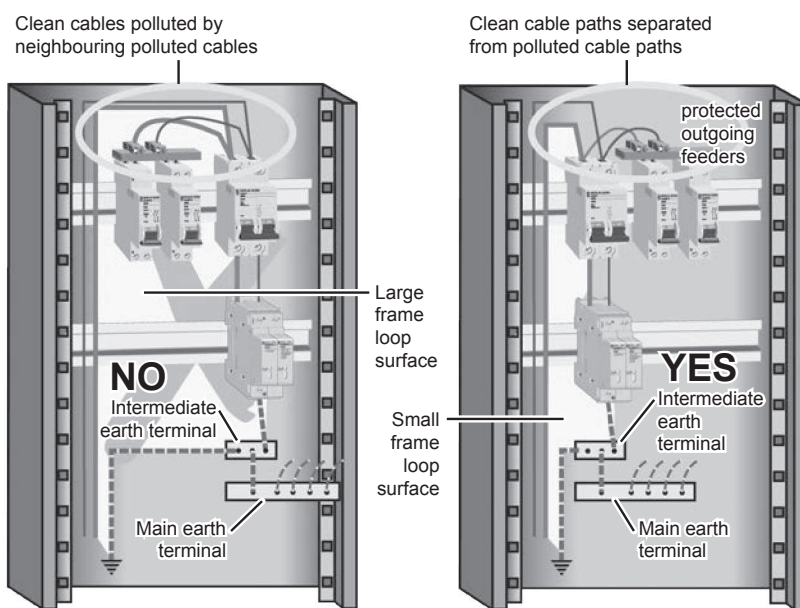

Fig. J42 : Example of improvement of EMC by a reduction in the loop surfaces and common impedance in an electric enclosure
The incoming feeder phase, neutral and protection (PE) conductors should run one beside another in order to reduce the loop surface (see Fig. J42).
The incoming conductors of the SPD should be remote from the protected outgoing conductors to avoid polluting them by coupling (see Fig. J42).
Finally, if shielded cables are used, big lengths should be avoided, because they reduce the efficiency of shielding (see Fig. J42).